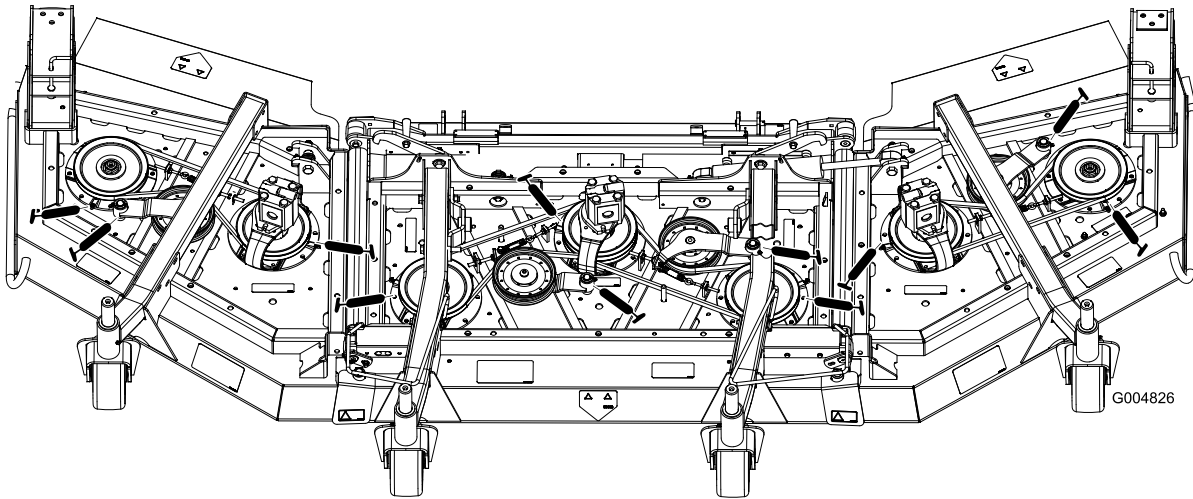

Figure 43
- Spindle shaft bearings (3) (located under the pulley) (Figure 43)
- Idler arm pivot bushings (2) (Figure 43)